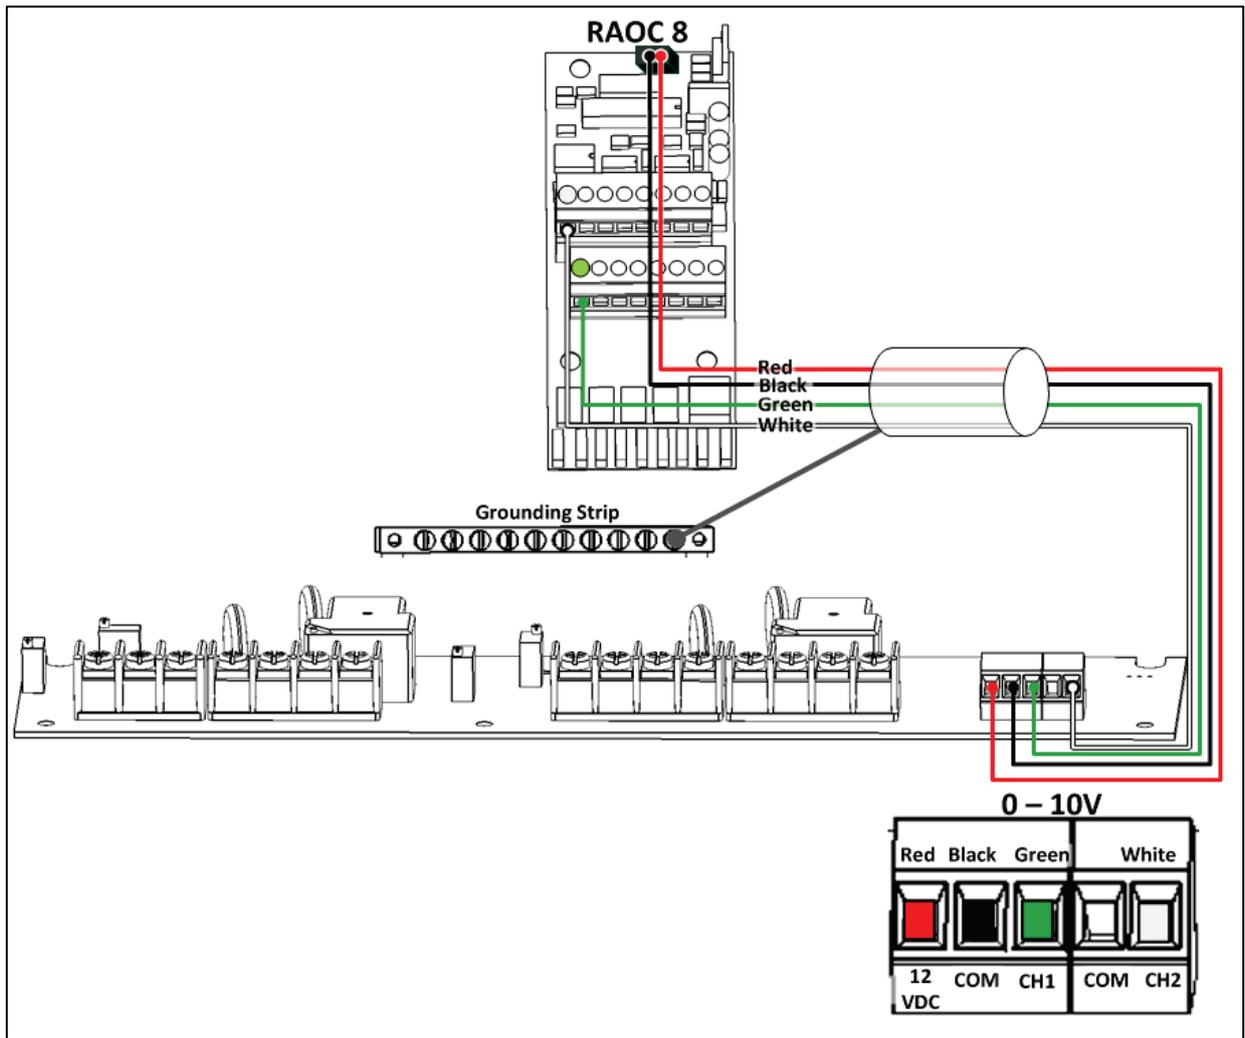

Figure 45: Variable speed card to analog card wiring
3. Wire the Variable Speed Card to the Farm Premium's Analog Output card (Figure 45).